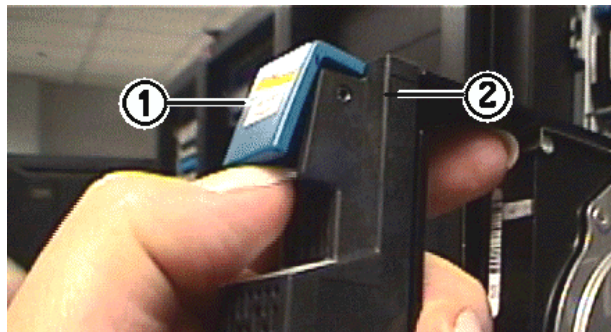

Figure 9-4: Unlocking the Lock Lever
5. Unlock the lock lever on the new drive, as shown in Figure 9-4.